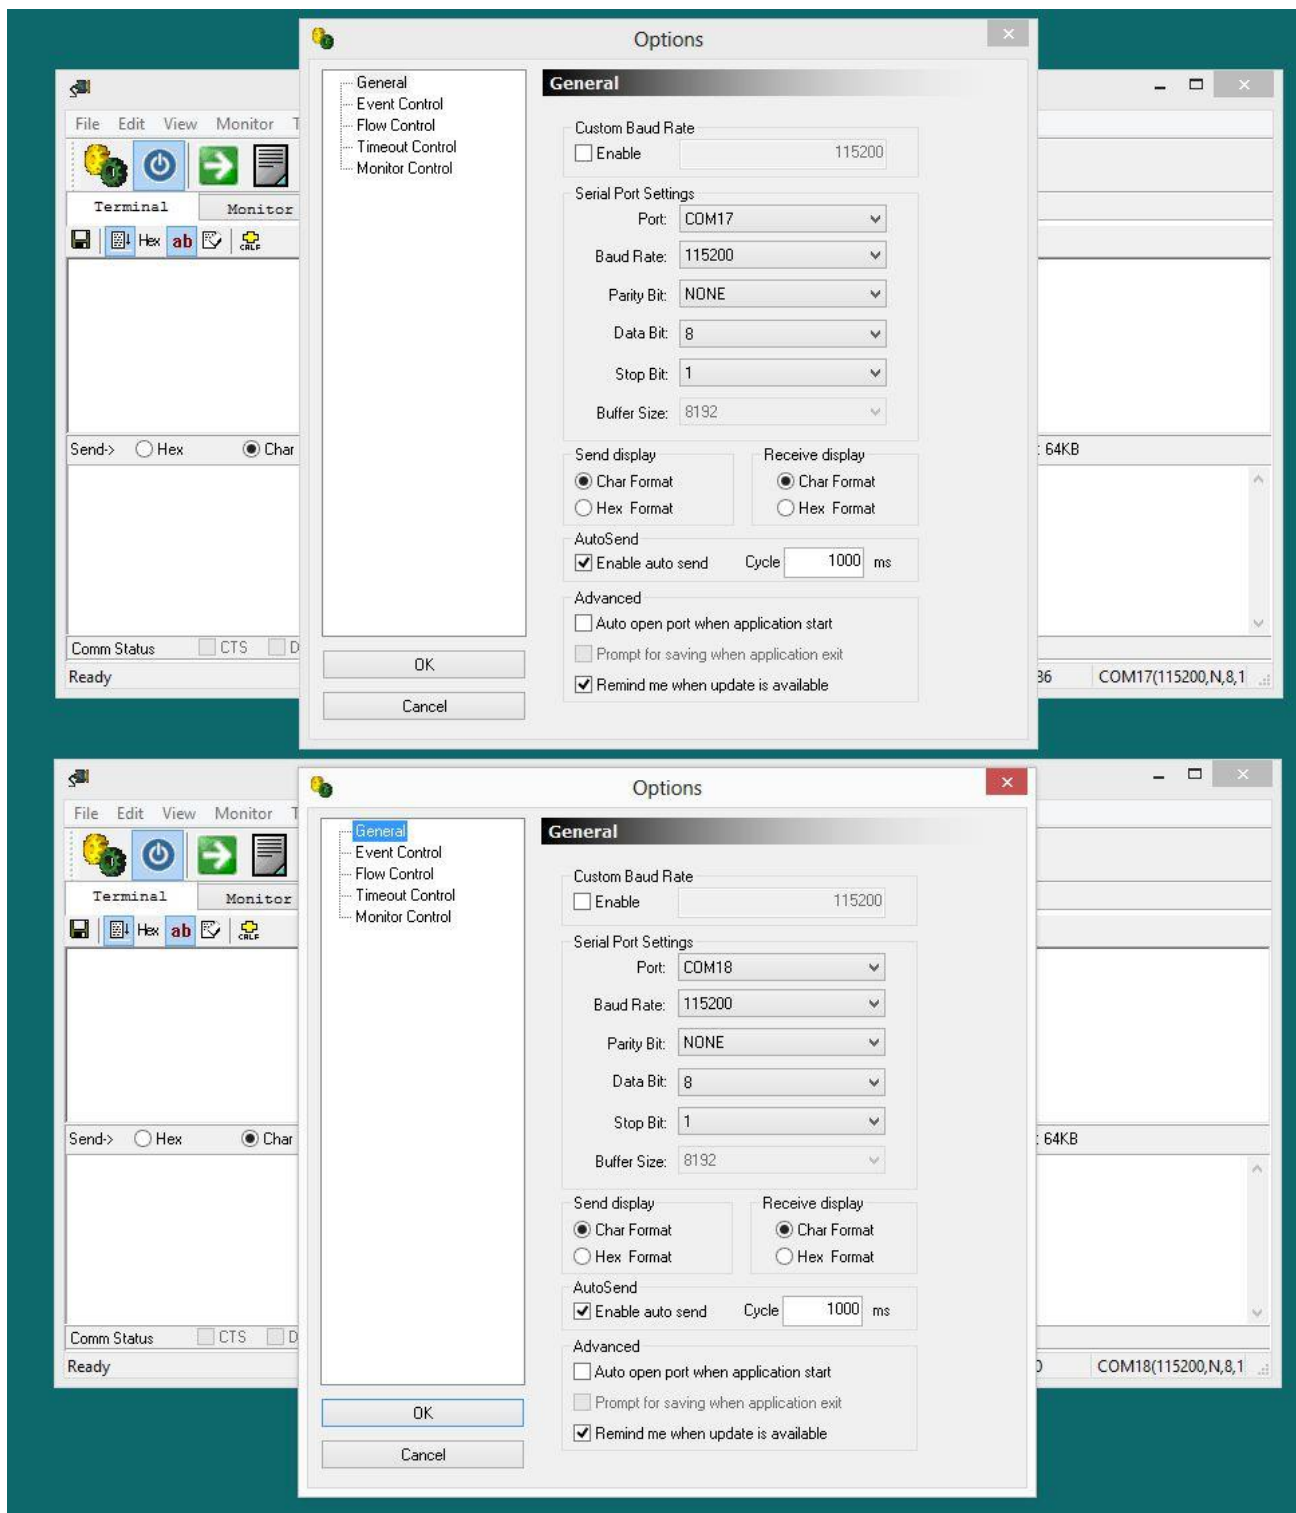

FIGURE 4.12 – ACCESSPORT SERIAL CONFIGURATION
- 3) In AccessPort select the yellow and green gear for each instance. Choose the COM ports and serial settings. Select “Enable Auto Send” and select OK. (SEE FIGURE 4.12)